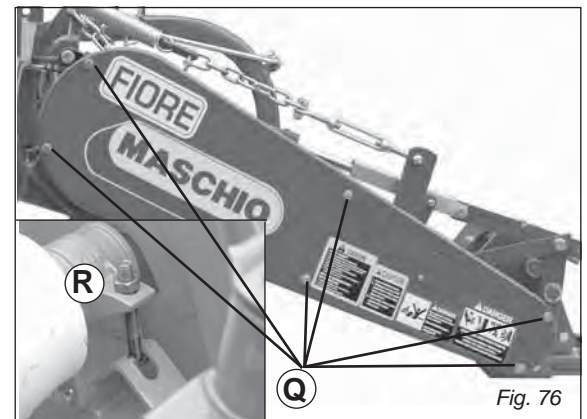

Fig. 76
- Unscrew the screws (Q, Fig. 76) and remove the protective casing.
- Loosen the belt tensioner completely (R, Fig. 76).
- Put the protective casing back in position and fix it in place with the screws (Q, Fig. 76).